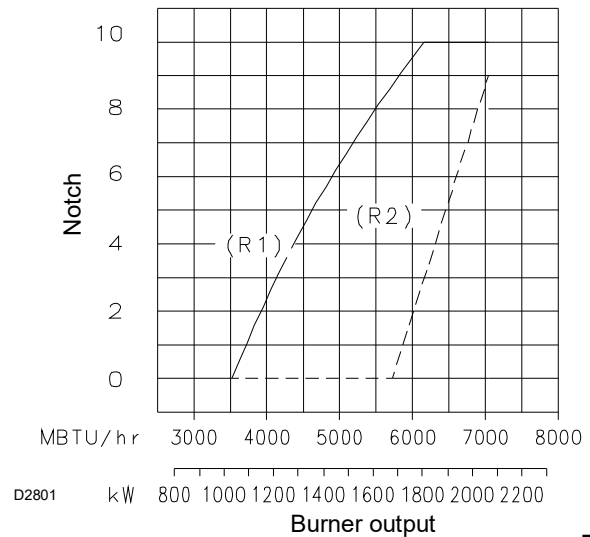

Fig. 16
In diagram (Fig. 16) find the notch for:
If we consult diagram (Fig. 16) we find that for this output the adjustments are:
R2 adjustment (Fig. 16) is an indication only. If possible, always keep the ring nut closed (notch 0); if air recovery is required the nut may be opened following the indications in diagram. Make sure that the combustion characteristics are satisfactory and free of pulsations.
- combustion head adjustment as indicated in Fig. 16, page 18.